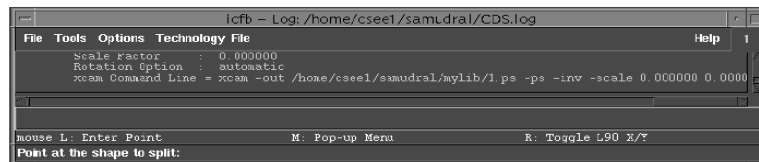

Fig.1
- b. Create a new library by selecting **file → New → library** from icfb window (Fig.1)
- d. Create a cell view by selecting **File→New→Cellview** from icfb window (Fig.1).